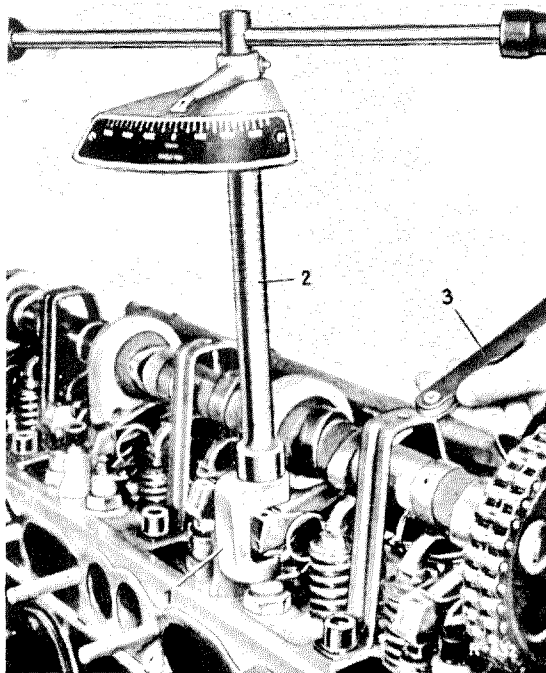

Fig. 01-3/1
If models 180 c and 190 SL with the new valve timing require a correction of their tappet clearance, adjustments are made by turning the upper portion of the ball pin at the hexagon portion (SW 14) with the adaptor 111 589 00 01 (1) and a torque wrench (0-6 mkg) (2) Fig. 01-3/1. Too small a tappet clearance is increased by screwing ball pin top down, too large a tappet clearance is decreased by screwing the ball pin top out. When turning the ball pin top (3) in its socket (1) the adjusting torque should be at least 1.5 mkg (Fig. 01-4/20a). If the adjusting torque is less, either the ball pin top (3) or the ball pin socket (1) or both parts should be replaced. If the tappet clearance is too small and the ball pin top cannot be further adjusted (turned down) by means of the hexagon SW 14 into the ball pin socket, a thinner thrust piece (7) may be inserted into valve spring retainer (9) (Fig. 01-4/20a). Normally, the thrust plates are 4.5 mm thick, they are also available 3.5 mm and 2.5 mm thick. Replacement of a thrust plate requires disassembly of the rocker arm (refer to Job. No. 05-1).